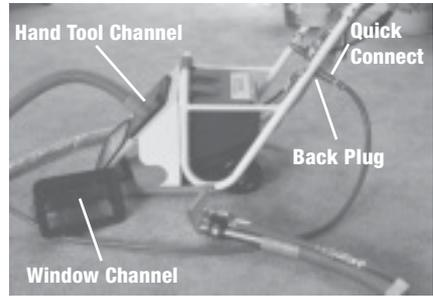

Figure 28: Hand Tool Attachment
- C. Snap the red pressure hose into the back plug (figure 28).
- A. Remove window channel and replace with hand tool channel (figure 28).